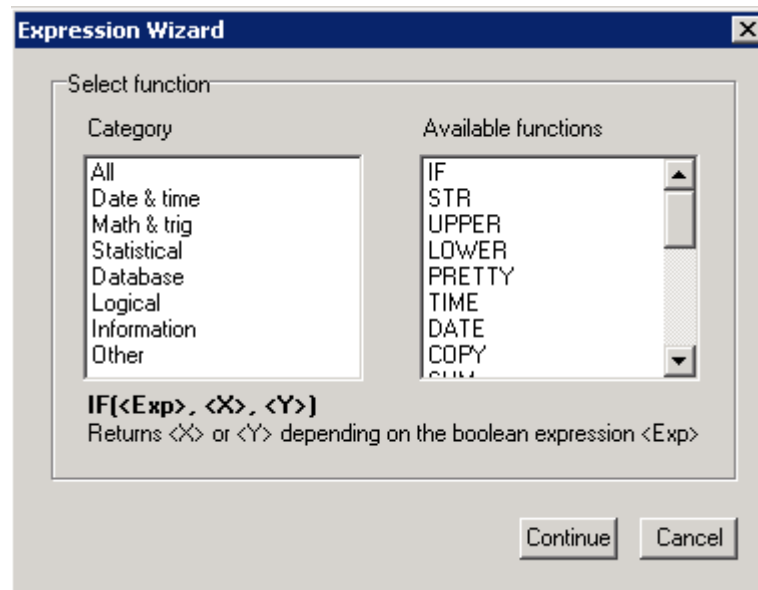

Figure 47 - Select Function Window
10. Click on the **Function** button to go to the **Select function** (Figure 47) window. After selecting the required function, click on the **Continue** button to close the **Select function** window and return to the **Expression Wizard**.